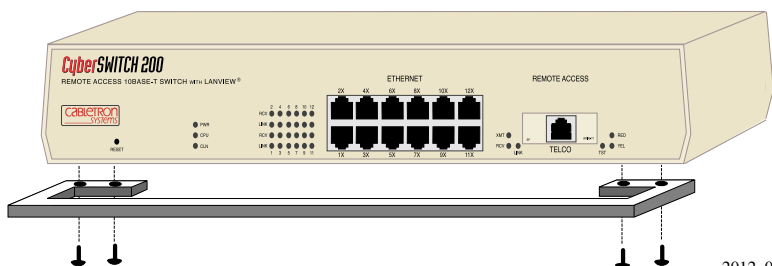

Figure 9 Attaching the Strain-Relief Bracket
2. Using the four 8-32 x 3/8-inch, pan-head screws, attach the strain-relief bracket to the bottom of the CSX200 as shown in **Figure 9**.